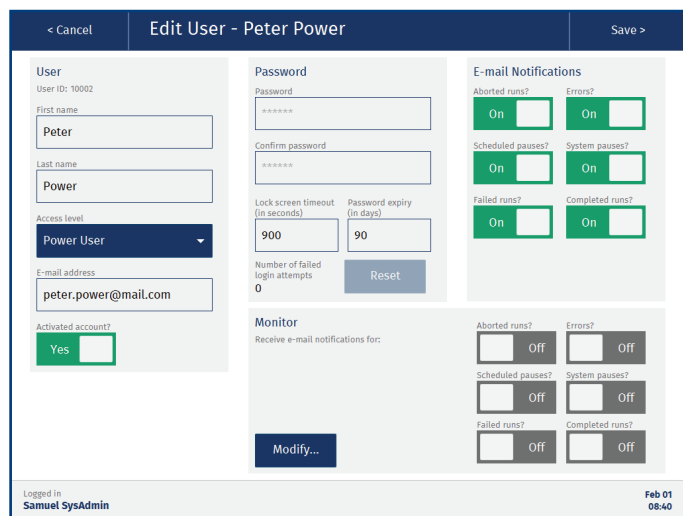

Figure 7. Editing a user with power user access.
The following user parameters are available in a user account (see Figure 7).
- » **Number of failed login attempts:** When a user fails to log in five times, the user account is locked. If e-mail notifications are allowed on your system (see page 7), all users with system administrator access (and an e-mail address registered) will be notified that the account has been locked. A user with system administrator access can unlock the account by pressing **Reset** (see Figure 7).